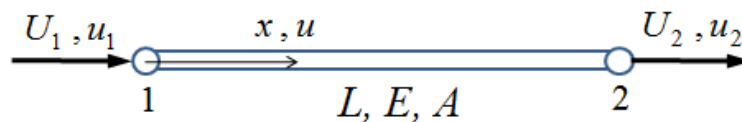

Figure 2/Rajah 2
2. (a). For the two-node linear elastic prismatic bar element shown in **Figure 2**, show using Principle of Minimum Potential Energy that the stiffness equation is given as follows: